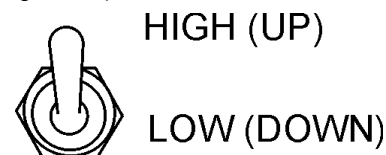

Figure 64. Engine Speed Switch (High)
24. Once the engine is warm and the engine is running properly, place the engine speed switch in the "**HIGH**" position (Figure 64).